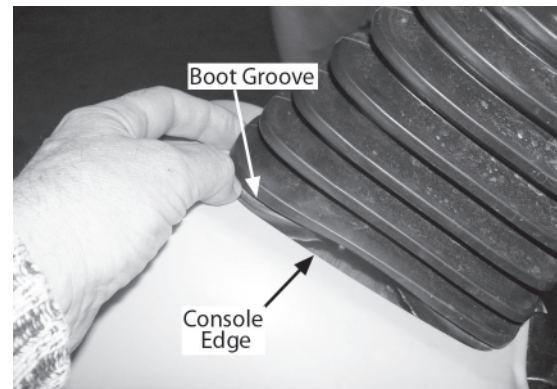

Figure 3-4
- Position the steering boot to align with the opening at the top of the steering console. Working around the bottom perimeter of the boot, insert the lower edge of the boot into the console opening. The bottom groove of the boot should engage the edge of the console opening to hold the boot in place. Refer to Figure 3-4.